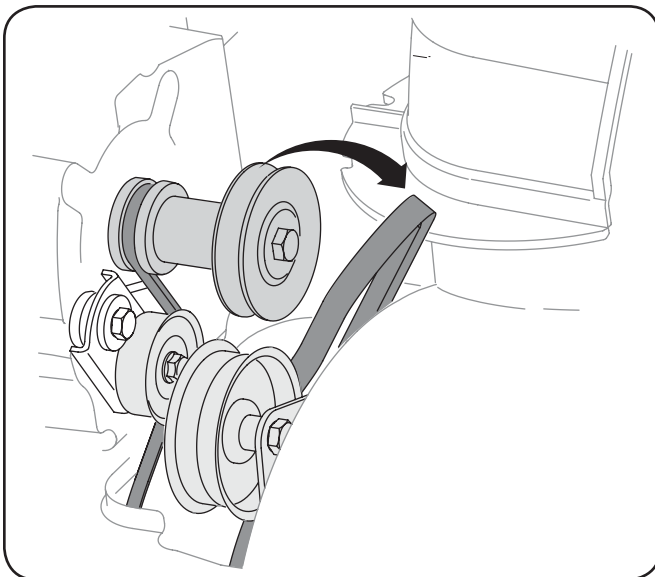

Figure 7-2
2. Roll the auger belt off the engine pulley. See Fig. 7-2.